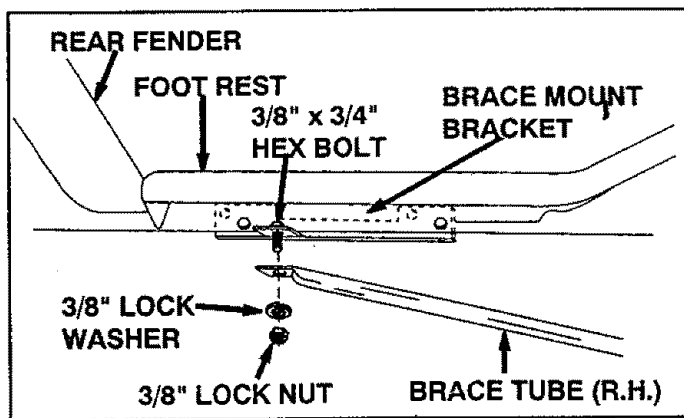

FIGURE 6
- Attach brace tube to brace mount bracket using the 3/8" x 3/4" hex bolt already put in place during step 6. Secure with a 3/8" lock washer and 3/8" lock nut. **Do not tighten at this time.** Repeat this step on opposite side. See figure 6.